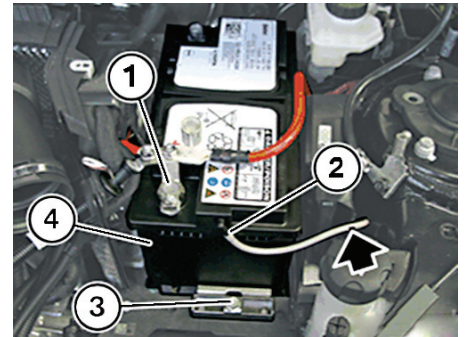

Fig. 5 Battery positive cable removal
9. Loosen nut (1) and remove positive battery cable from positive battery terminal, **Fig. 5**.
10. Detach vent hose (2), **Fig. 5**.
11. Release screw (3) and remove holder, **Fig. 5**.
12. Lift out battery (4), **Fig. 5**.
1. Install battery (4), **Fig. 5**.
2. Install holder and screw (3), **Fig. 5**. **Torque** screw to 14 ft. lbs. Ensure battery is correctly seated in associated mounting.
3. Install vent hose (2) and clip in, **Fig. 5**. Ensure vent hose is correctly laid.
4. Install positive battery cable and **torque** nut (1) to 44 inch lbs., **Fig. 5**.